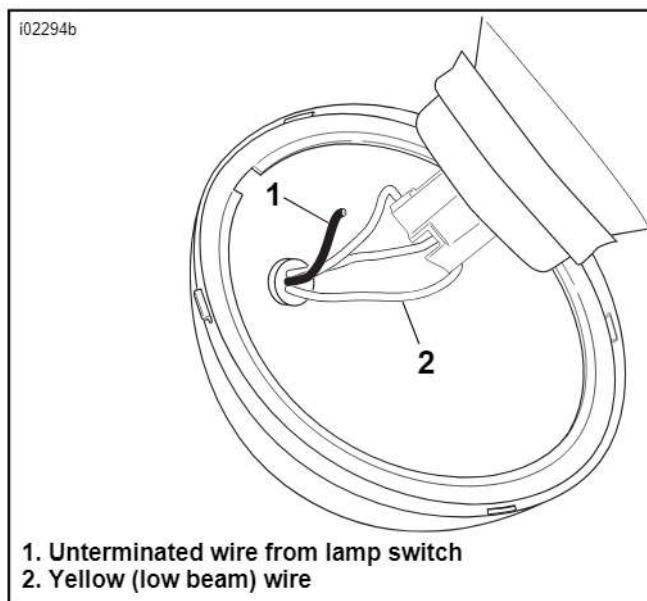

Figure 7. Splice the Unterminated Wire from the Switch to the Headlight Yellow (Low Beam) Wire
15. See Figure 7. Route the unterminated wire (1) from the switch through the grommet into the headlight housing. Splice it to the yellow (low beam) wire (2) using the Scotchlok® electrical connector (Item 14) from the kit.